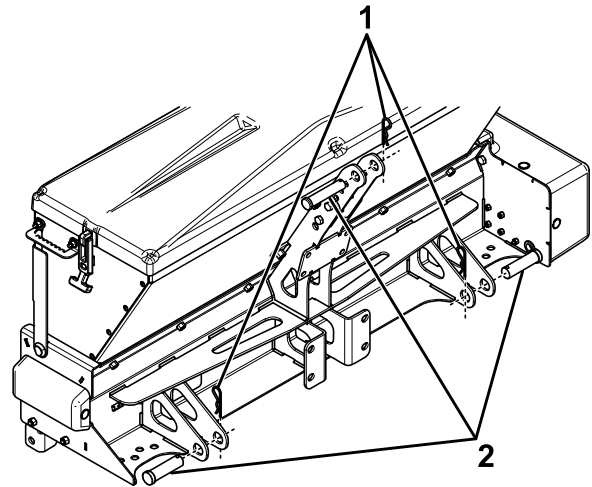

Figure 23
2. Slowly drive the tractor up to the spreader and lower the lift arms so that they align with the lift pin brackets (Figure 23).
3. Secure the spreader lift pin brackets to the tractor using 2 clevis pins (7/8 inch) and cotter hairpins (Figure 23).
4. Lean the spreader back and attach the mast brackets to the tractor mast using a clevis pin (3/4 inch) and cotter hairpin (Figure 23).